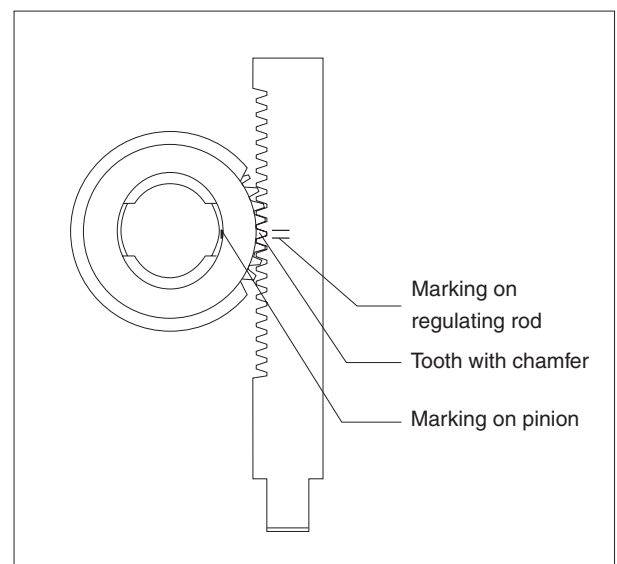

Fig. 4 Mounting of Regulating Rod Mechanism
D. Wipe dry with paper plane sealing surface on barrel (E) and connecting piece (B).
E. Before inserting the pinion (J), the easy motion of the plunger (M) in the barrel (E) must be checked.
F. When assembling the pinion (J), ascertain that the tooth (recognizable by the chamfer) will enter the space of the regulating rod (H) marked by two rings, see fig. 4.
G. The marking on the guide cam of the plunger (M), must be in line with the marking in the slots of the pinion (J). (Not shown on fig. 4).
18. After assembling, the easy motion of the regulating rod (H), must be checked and the plunger (M) must be moved from the no-load stop to full-load stop.